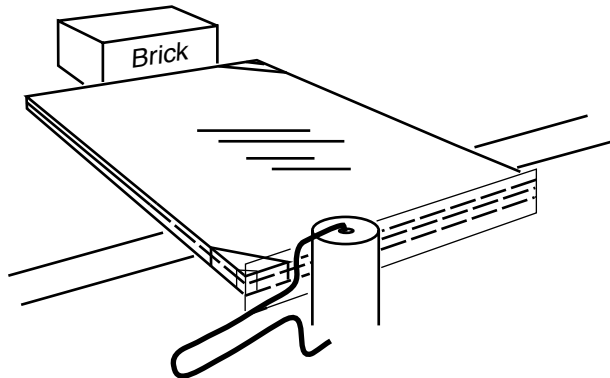

Figure 6: Use a soft rubber brayer to press the tape onto the edge of the glass/mat/art/backing package.
- Use your hand or a soft rubber brayer to stick the tape to the back and outside edge of the whole package (see Figure 6).